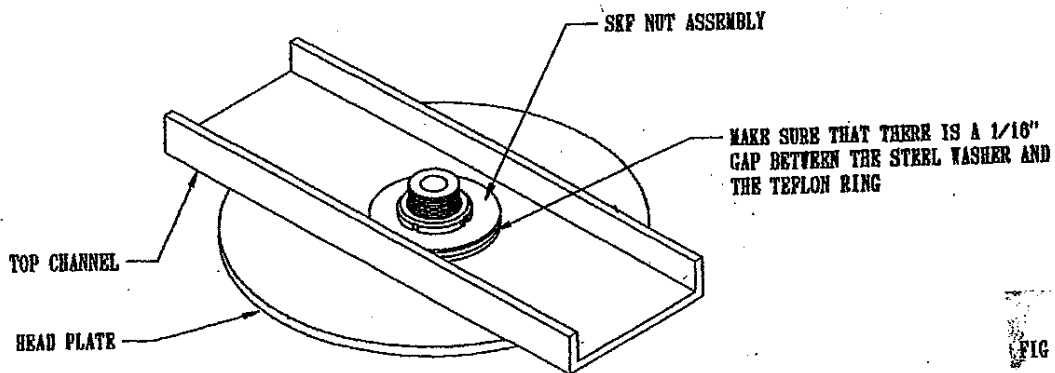

FIG 3
10. Once the alignment tool is centered in the sprue section, slowly and evenly tighten the three (3) bolts on the main air cylinder until each is completely tight.
14. Locate the SKF NUT assembly on top of the **TEKCASTER**. Loosen the bolt on the SKF nut assembly with the 3/16 (4mm) allen wrench, unscrew the SKF nut assembly (counterclockwise) until you have a cleared gap of 1/16" (1mm) between the metal washer, and the teflon ring as shown in Fig 3.